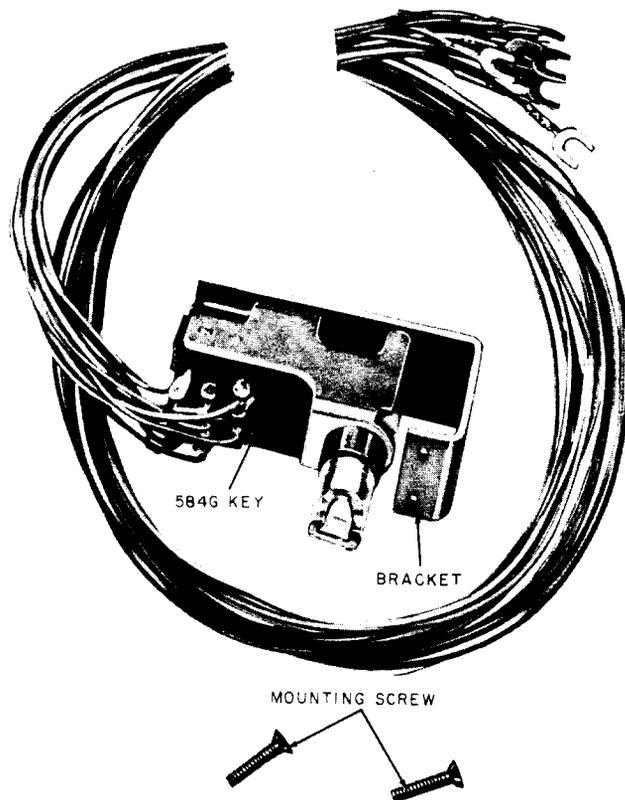

Fig. 7—612B Key
2.22 The 612B key (Fig. 7) consists of a 584G key equipped with a bracket for mounting to a 1/8-inch maximum thickness panel or housing. The key is 2 inches long, 29/32 inches wide, and 2 inches high and is intended for use as a line transfer or cutoff and signaling key for 1A, 1A1, or 1A2 Key Telephone Systems. It can also be used with interphone circuit similar to 1A home interphone or 2A farm interphone. Refer to Section 502-750-401 for typical circuit and schematic for this key.